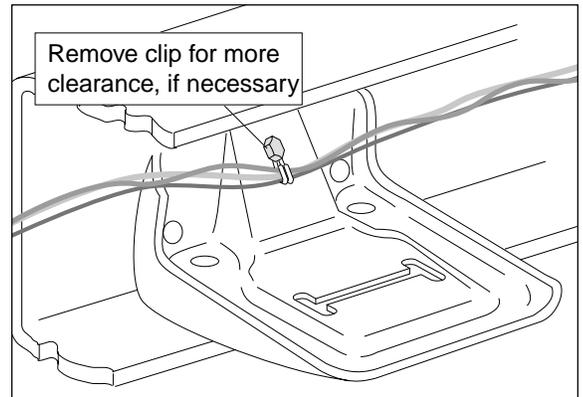

Figure 5
3. It may be necessary to remove the clip holding the lines on the inside of the frame rail to provide access to the existing bolts (Figure 5).